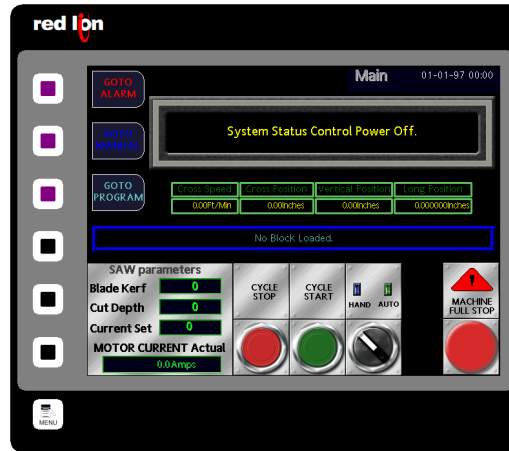

Figure 1: Example Screen
This is an Operation Manual for the Ogden Kodiak 6'6" Saw (Bruce Peninsula Stone equipment number 332) with revised control system. Each chapter topic covers one operator screen, along with related controls and indicators. The following format is used for indicating tips and information **i** and cautionary notes **!** where necessary. As an example, figure 1 below shows the Main Operator Screen. Details that would follow the image of the screen shall include items of interest, such as control items and information areas, as well as status indicators. The descriptions and explanations are given from the perspective of proper equipment operation by the reader. A basic understanding of machine operation and safety procedures specific to the facility housing the equipment, should be considered a pre-requisite.
**i** The Main Screen shown in Figure 1, and all of the Operator Screens, use the same layout style. Navigation between screens is done using the physical buttons on the left side of the terminal, with the labels referencing what screen to goto. The operator can always return to the Main Screen from any other screen by pressing the Menu button located at the bottom left of the terminal.